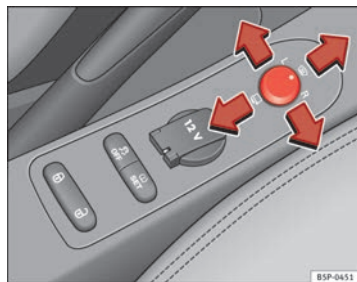

Fig. 86 Controls of exterior mirrors
1. Turn knob ⇒ **fig. 86** to position **L (left exterior mirror)**.
- Turn the control ⇒ **fig. 86** to position  to fold in the exterior mirrors. You should always fold in the exterior mirrors if you are driving through an automatic car wash. This will help prevent damage.